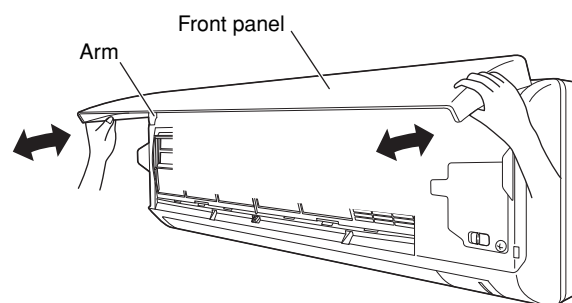

Fig. 16-4
- (1) Open the front panel until it is nearly horizontal, grasp the sections near the front panel arms on both sides, and then pull towards you to remove the front panel. (Fig. 16-4)